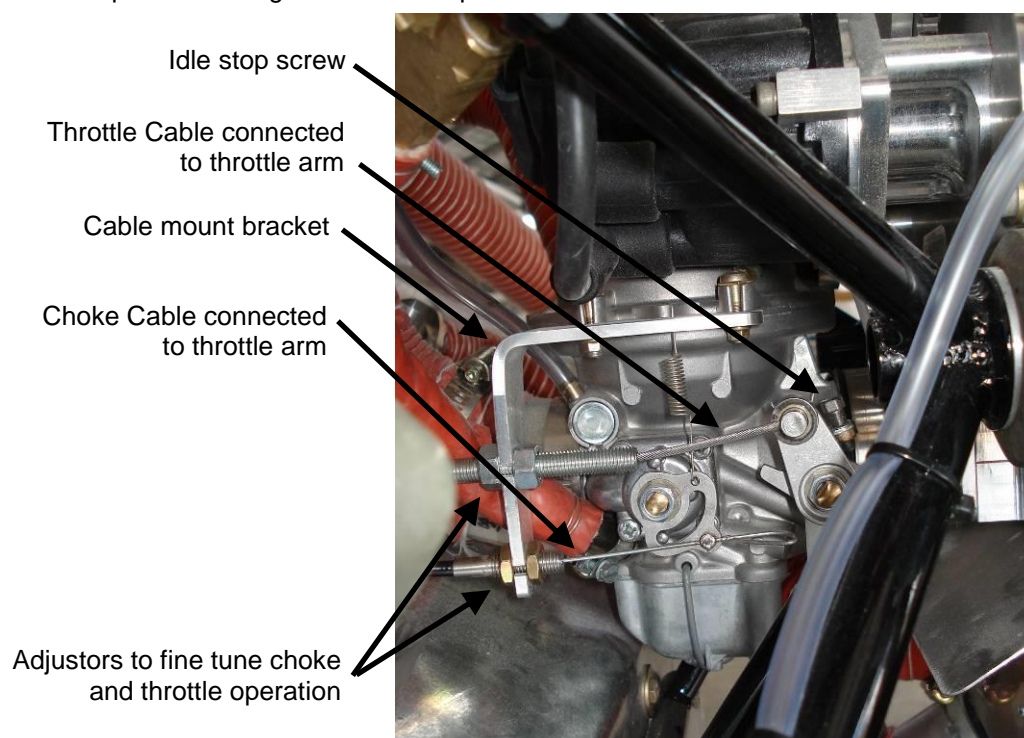

Figure 7. Choke and Throttle Connections to Carburettor
- The cables for the choke and throttle can be adjusted using the adjuster screws and nuts shown in Figure 7. A 7mm spanner is required.
- All Jabiru engines are run-in on a Dynamometer before delivery. It is impossible to accurately set the idle RPM when the engine is on the dynamometer, so the Idle Stop Screw (shown in Figure 7) must be adjusted as a part of the engine installation process.